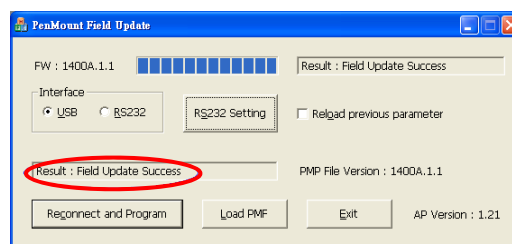

Fig.29
- When Update finished the result will show "Field Update Success" (Fig.29)